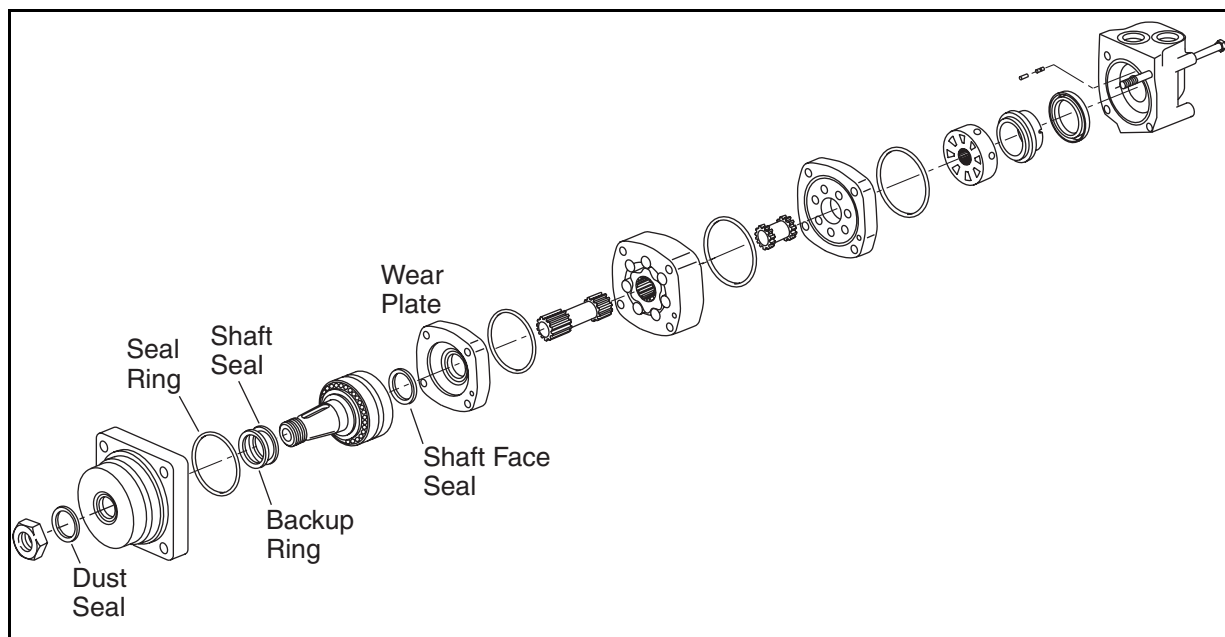

Figure 8F-4. Seal Assemblies
6. Install the seals and backup ring in the flange end as shown in Figure 8F-5.